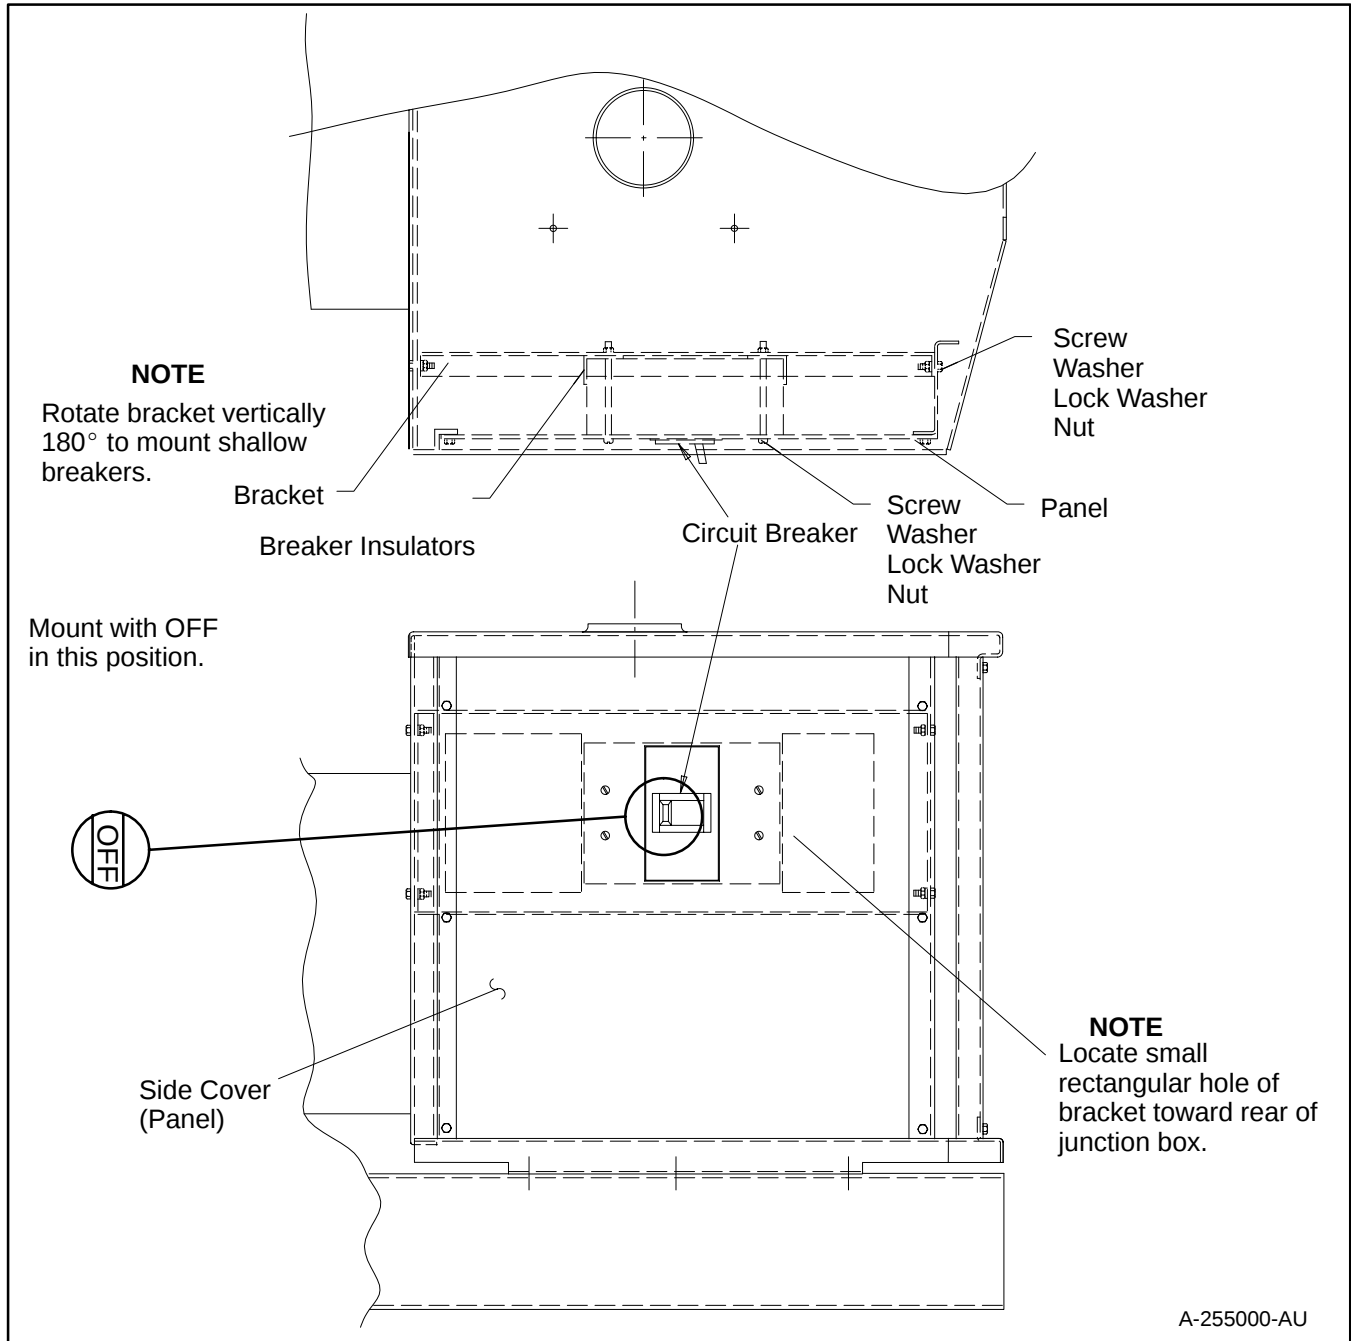

Figure 2. Circuit Breaker Assembly
4. Locate the ON side of circuit breaker nearest to small rectangular hole of bracket and place two breaker insulators between circuit breaker and bracket. If mounting a three-pole circuit breaker, use four screws, flat washers, lock washers, and nuts. If mounting a two-pole circuit breaker, use two screws, flat washers, and nuts. Locate in top two mounting bracket holes. See Figure 2.